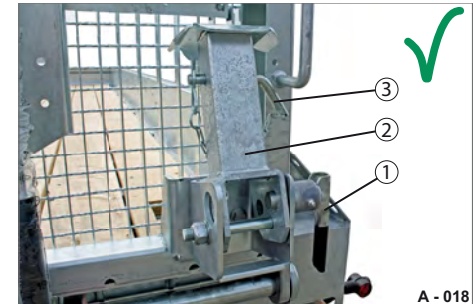

Fig. 8 Drive position
- ▶ Check that both folding supports are in drive position before departing (see Fig. 8).